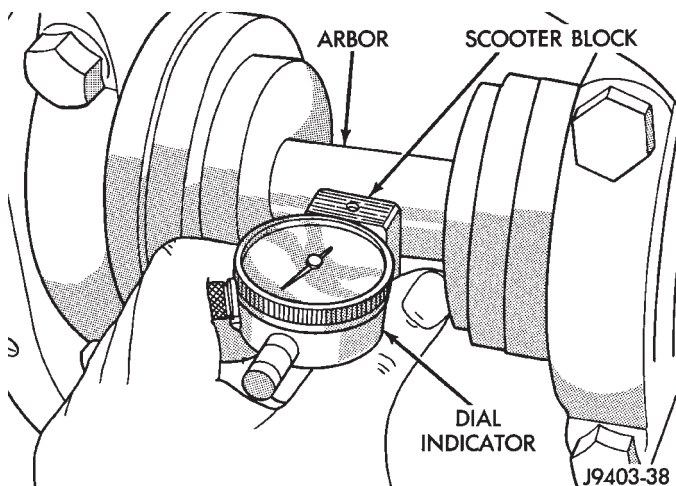

Fig. 72 Pinion Gear Depth Measurement—Typical
(8) Slide the dial indicator probe across the gap between the pinion height block and the arbor bar with the scooter block against the pinion height block (Fig. 72). When the dial probe contacts the arbor bar, the dial pointer will turn clockwise. Bring dial